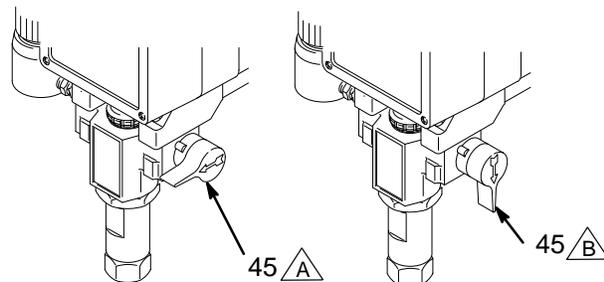

Fig. 4
Use the pressure drain valve (45) to relieve fluid pressure from the pump and to help prime the pump. If the valve senses an overpressure condition, it opens automatically to relieve fluid pressure. If this happens, stop spraying immediately, shut off and unplug the sprayer. Correct the problem before using the sprayer again. Refer to Troubleshooting, page 15. See Fig. 4.